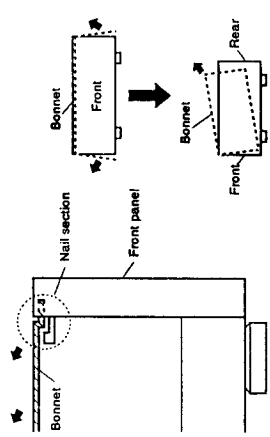

Fig. 2-1
- Note: If you pull up the rear base of the bonnet to remove it as in the conventional manner, the hooks shown in Fig. 2-1 may be caught and the hooks on the front panel side may be deformed.